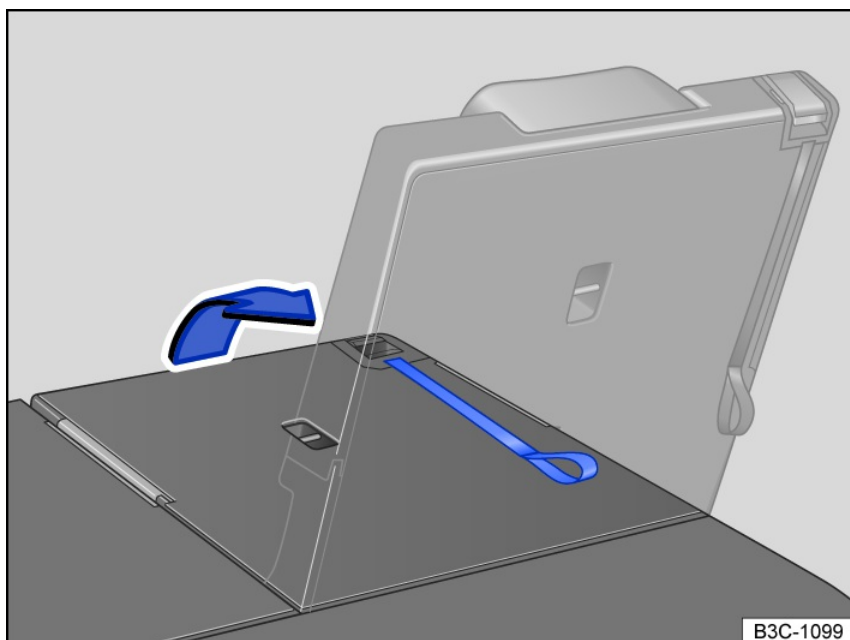

Fig. 78 Third row seat: folding the rear seat back.
2. To fold the rear seat backrest back, pull on the loop on the rear seat backrest fig. 78.